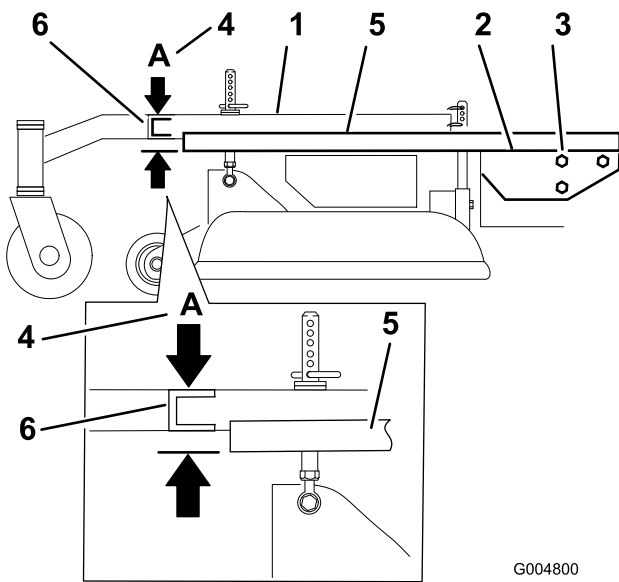

Figure 78
3. Place a long straight edge on top of the engine deck as shown in Figure 78.
4. At the carrier frame cross channel, measure the height at location **A** (Figure 78). This measurement must be 1-5/16 inch (33 mm), plus or minus a 1/4 inch (6 mm).
6. Loosen the carrier frame mounting bolts on both sides of the machine (Figure 78).
7. Align the carrier frame and engine deck to match 1-5/16 inch (33 mm), plus or minus a 1/4 inch (6 mm) at location **A** (Figure 78).